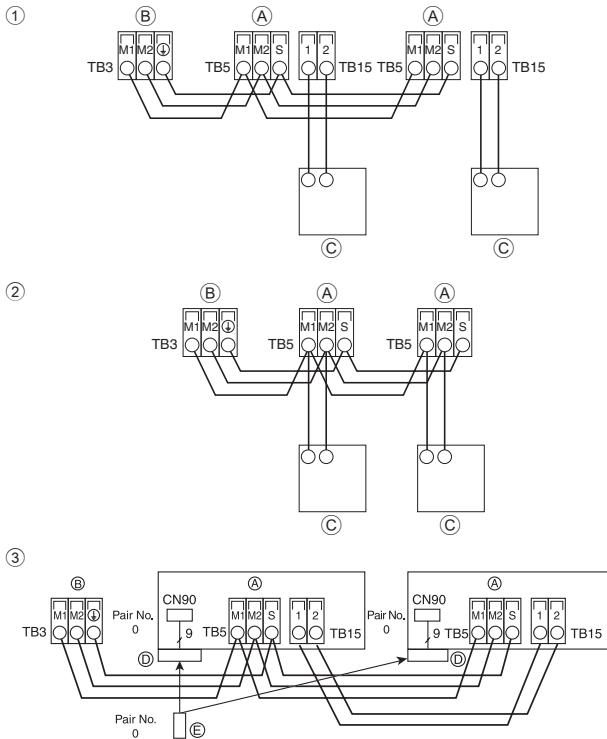
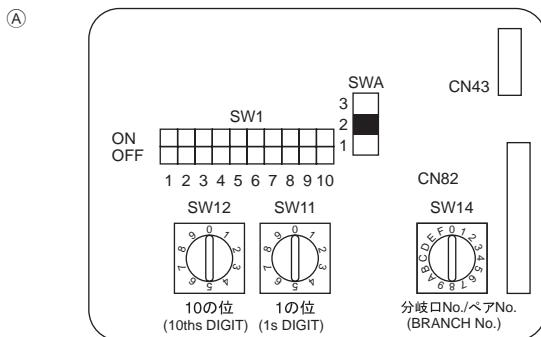

Fig. 6-3
Fig. 6-4
6.4. Connecting remote controller, indoor and outdoor transmission cables (Fig. 6-3)
- ① MA Remote controller
- ② M-NET Remote controller
- ③ Wireless remote controller(When installing wireless signal receiver)
6.5. Setting addresses (Fig. 6-4)